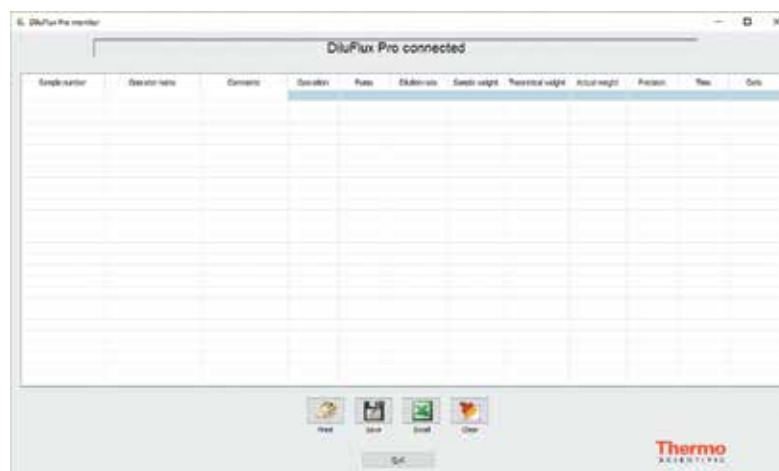

Figure 31
- When this screen (Figure 31) is displayed, the DiluFlux Pro dilutor is connected.